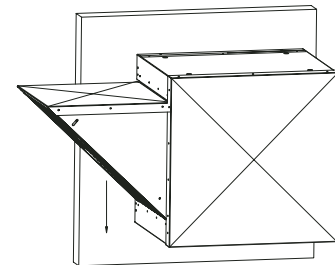

Figure 10 – Recommended Wall Installation
2. **Masonry Wall.** Around the wall opening, install an angle iron frame at least 2" x 2" x 1/4" to match the inside base dimension of the ventilator. Secure with lead cinch type anchors with non-ferrous bolts, not supplied (3 per side). The ventilator should then be mounted (inlet assembly down) to the mounting angle with self tapping sheet metal screws (not supplied) as shown in Figure 10.
3. **Wood Siding.** Around the wall opening install a wooden frame at least 2" x 4" to match the inside base dimension of the ventilator. Secure with counter-sunk expansion type lag bolts (not supplied, 3 per side). The ventilator should then be mounted (inlet assembly down) to the mounting frame with square head wood screws (not supplied) as shown in Figure 10.
- It is recommended to install the unit with the inlet assembly installed in a horizontal position (left or right install configuration only). The inlet assembly must be rotated so that the filters point in a downward configuration, as shown in Figure 10.